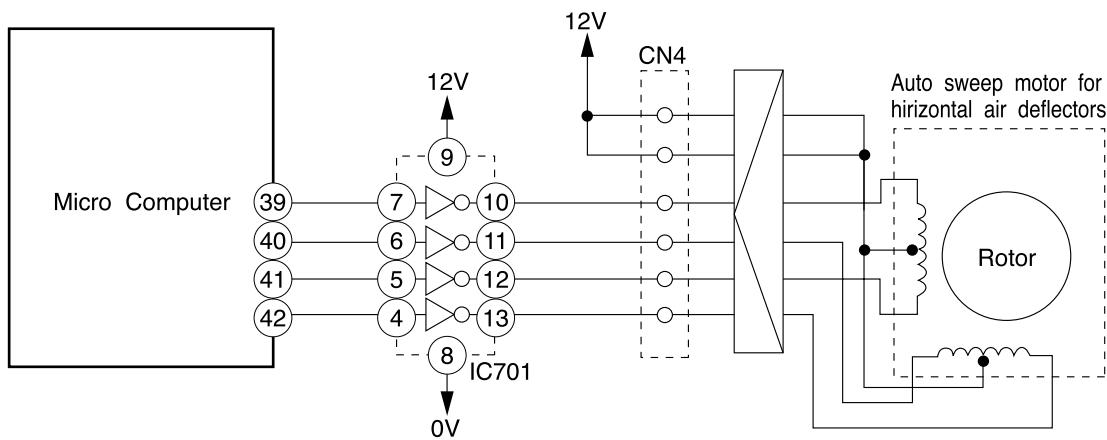
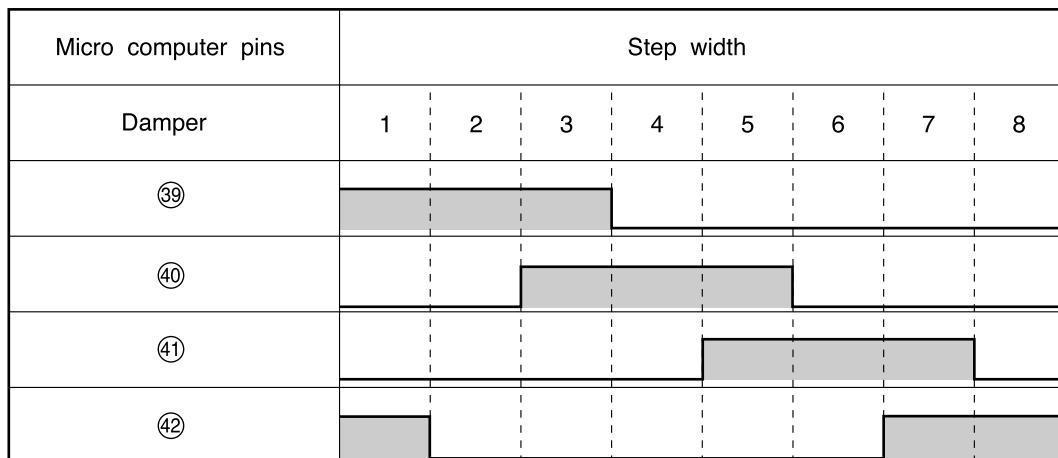

Fig.4-1 Auto Sweep Motor Circuit (Horizontal air deflectors)
Fig.4-2 Micro computer Output Signals
- Fig.4-1 shows the Auto sweep Motor drive cicut; the signals shown in Fig.4-2 are output from pins ⑨-⑫ of the micro computer.
- As the micro computer's outputs change as shown in Fig.4-2, the core of the stepping motor is excited to turn the rotor. Table 4-1 shows the rotation angle of horizontal air deflectors.